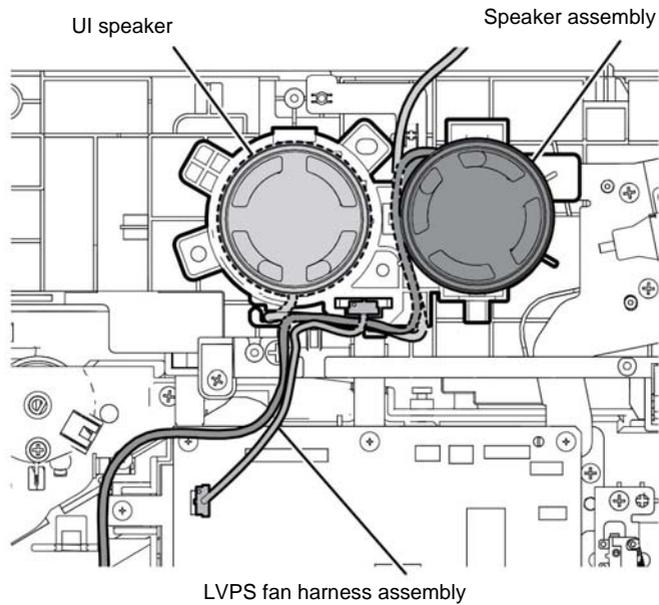

Figure 6 Replacement
2. If the speaker cover, PL 18.1B Item 20, is accidentally removed. Install the speaker cover, with the LVPS fan harness assembly, the UI speaker and the speaker assembly. Refer to Figure 6.